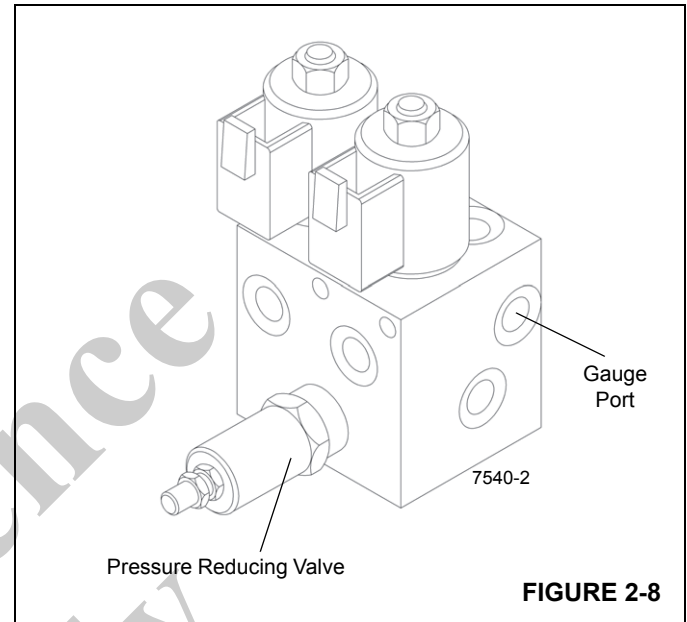

FIGURE 2-8
1. Install pressure check diagnostic quick disconnect with gauge onto test nipple at swing brake pilot supply valve test port Figure 2-8.